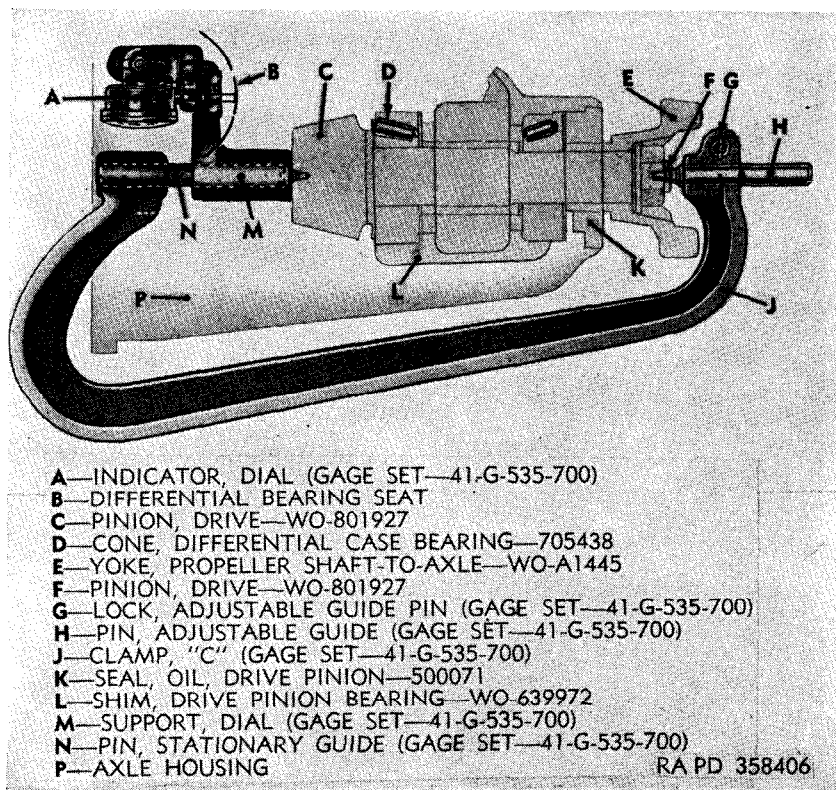
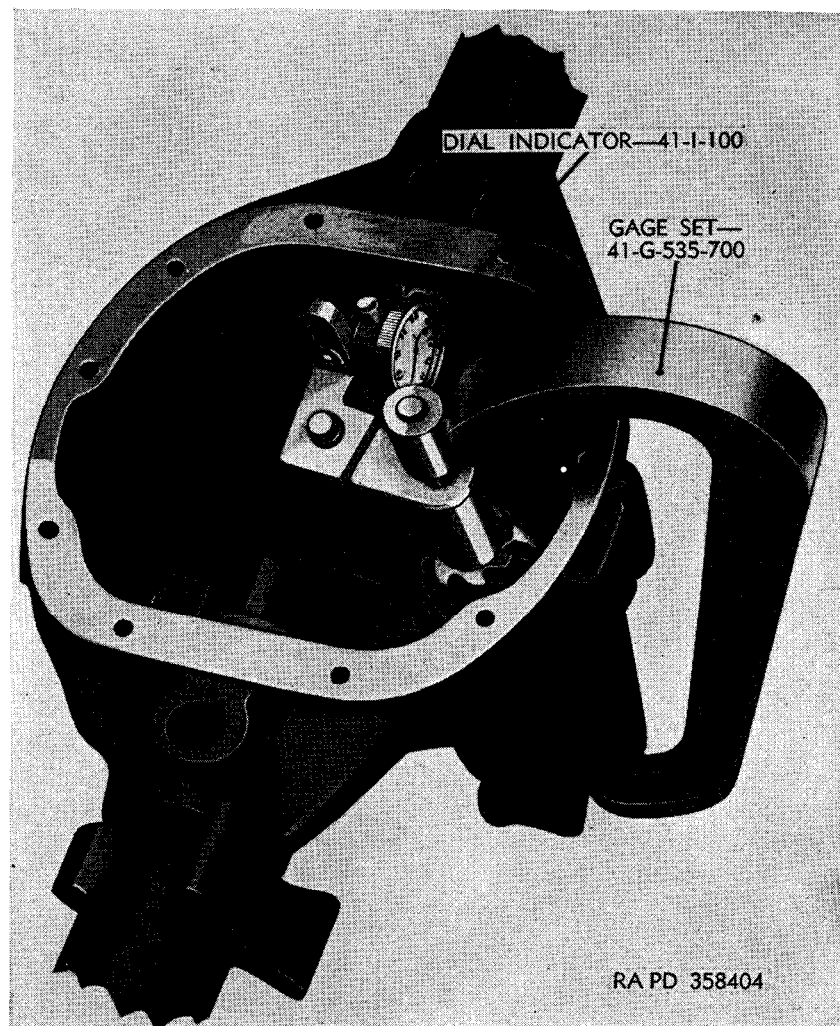

Figure 78. Seating drive pinion setting gage set 41-G-535-700.
Figure 79. Checking pinion in differential housing with gage set 41-G-535-700.
b. Seat Drive Pinion Setting Gage To Pinion (fig. 78). Assemble the dial indicator (A) to the C clamp of gage set 41-G-535-700 by
c. *Final Check of Pinion.* With the C clamp correctly seated in the drive pinion lathe center and the dial indicator contact point bearing against the differential case side bearing bore (fig. 79), hold the dial indicator (A, fig. 78) against the drive pinion. Swing the dial indicator back and forth across the bearing bore and watch the dial indicator reading. The lowest reading indicates the center of the bearing bore. If the shim pack is of the correct thickness, the indicator reading will be the same as the etched markings on the drive pinion head. For example, if the drive pinion is marked +3, the dial should indicate +0.003 inch. If the drive pinion is marked -3, the